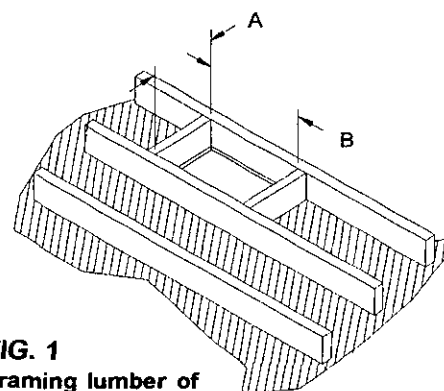

FIG. 1
2. Using framing lumber equal to ceiling joist size, frame ceiling opening as shown in Figure 1 and Table 1.
5. Proceed to the next ceiling. If **Metal-Fab Elbows are to be used because the chimney is to be offset, refer to "Installation of Elbows" section.** Directly above the Center of the flue in the ceiling support, mark the ceiling. A plumb bob is normally used to find the center. Cut an opening in the ceiling using Figure 1 and Table 1.